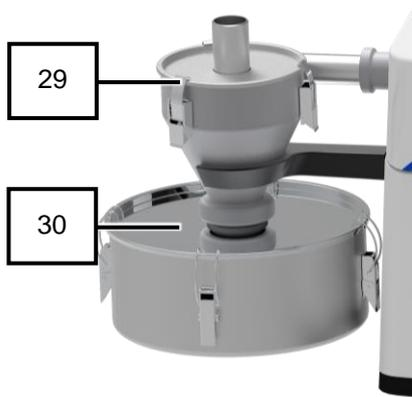

Fig. 29: Device with cyclone separator
12. Press  on the touch display (6) to start the grinding process.
13. The sample material is automatically fed in via the chute (28) of the DR 100 feed unit (33) and ground.
14. Observe the performance indicator on the touch display (6) to assess the uniformity of the grinding process.
15. Press  on the touch display (6) to stop the grinding process.
17. Remove the sample material from the collection receptacle (30) of the cyclone separator (29) (Fig. 29).